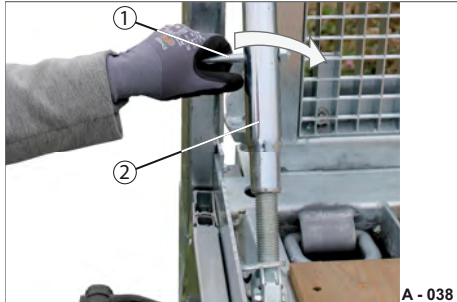

Fig. 55 Relieving the securing rod strain
► Turn the lever (Fig. 55/1) to slacken the securing rod (Fig. 55/2).